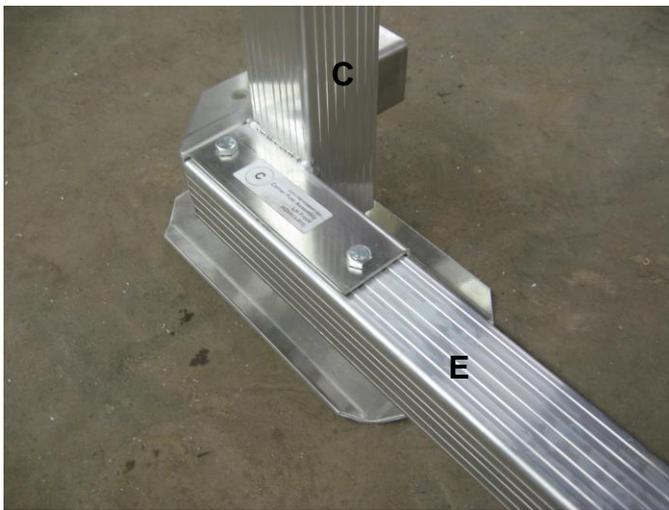

FIG. 16
2. Connect corner posts **C & D** using two tubes, **E & F**, as shown in FIG. 13. Lay corner posts **C & D** down on ground as shown in FIG. 13. Install top lakeside tube **F** in sleeve pockets first, as shown in FIG. 14 & 15. Secure with one ½" bolt in each sleeve pocket. Install lakeside bottom tube **E** into channels on bottom of corner post, shown in FIG. 16 & 17, using four ½" bolts/nuts.